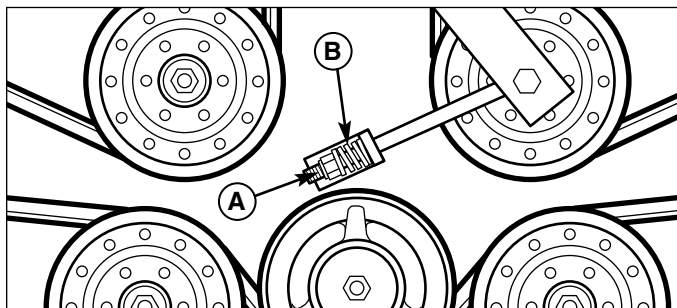

Figure 13. PTO Mower Drive Belt
1. Raise the floor pan and loosen the spring compression nut (A, Figure 13) to release the belt tension.
2. Reinstall the mower deck drive belt on the new spindle pulley. Tighten the spring compression nut (A, Figure 13) until the idler spring (B, Figure 13) is compressed to 1-5/8" (4,12 cm) long. Be sure the measure the spring only.